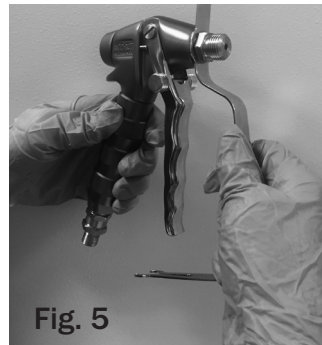

Fig. 6
- 3.- Unthread the gun grip from its housing (figure 6).